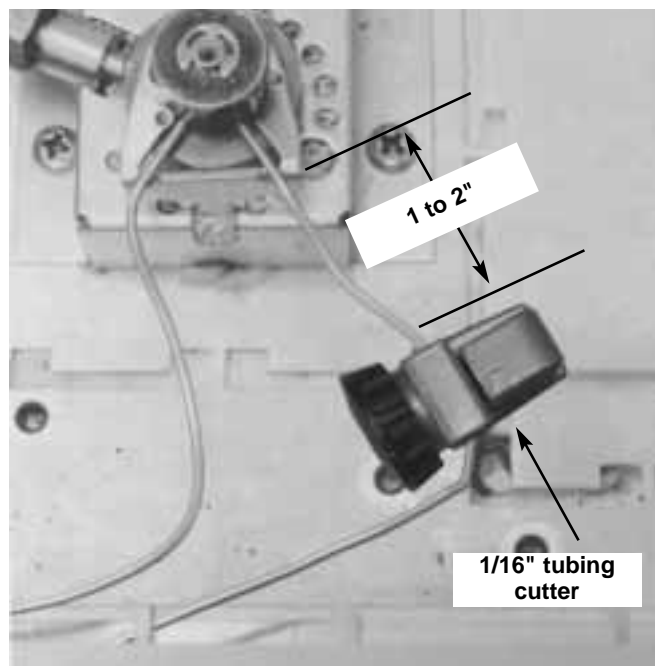
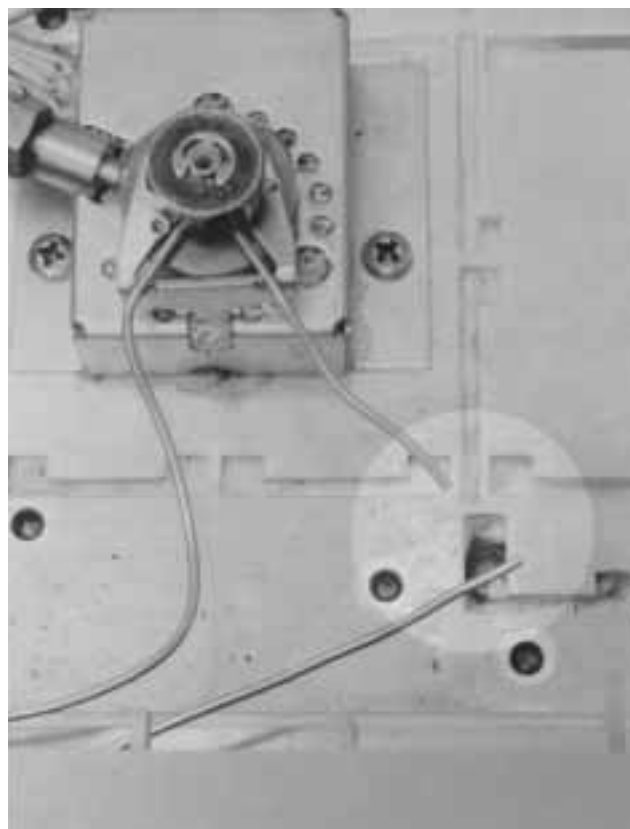

Fig 3.28 Cutting the GC carrier gas line.
Fig 3.29 Be sure that both ends of the carrier gas line are open and clean where the line was cut.
6. Using the tubing cutter, cut the carrier gas line approximately 1-2" from the injection port. **See Figure 3.28.** Be sure that both ends of the carrier gas line where you have made the cut are open and clean. If not, clean with a small needle file. **See Figure 3.29**